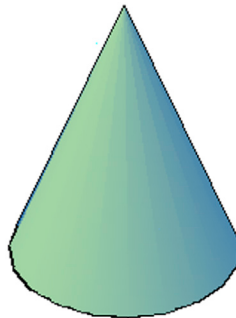

FIGURE 23.20 Cone primitive.
Step 4. Drag your mouse up (or enter a value) and the cone shape is automatically extruded, as seen in Fig. 23.20. The command has some interesting suboptions, such as Top radius, which can chop off the pointy top of the cone. Experiment with these options.